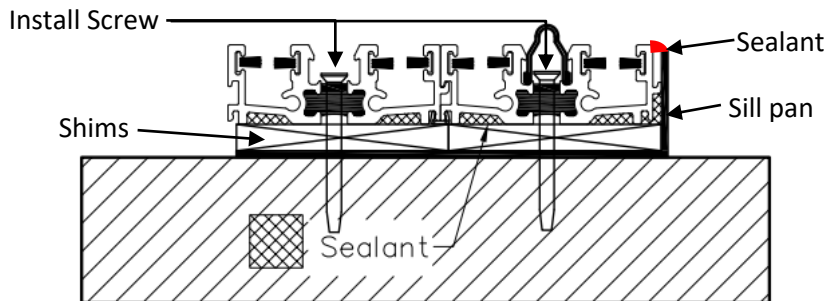

Figure 10a
14. Apply a continuous bead of sealant across the entire sill of the opening where the door frame will sit, including a bead of sealant between the sill pan and frame on the interior side as shown in figure 10a, then insert door frame into the opening as shown in figure 10b. (Sealant should conform to AAMA 802.3-16 and 803.3-16). After frame is installed, seal all 4 corners per detail 10b and 10c. Make sure the exterior and weeps are not covered with sealant to allow water in the tracks to weep out.